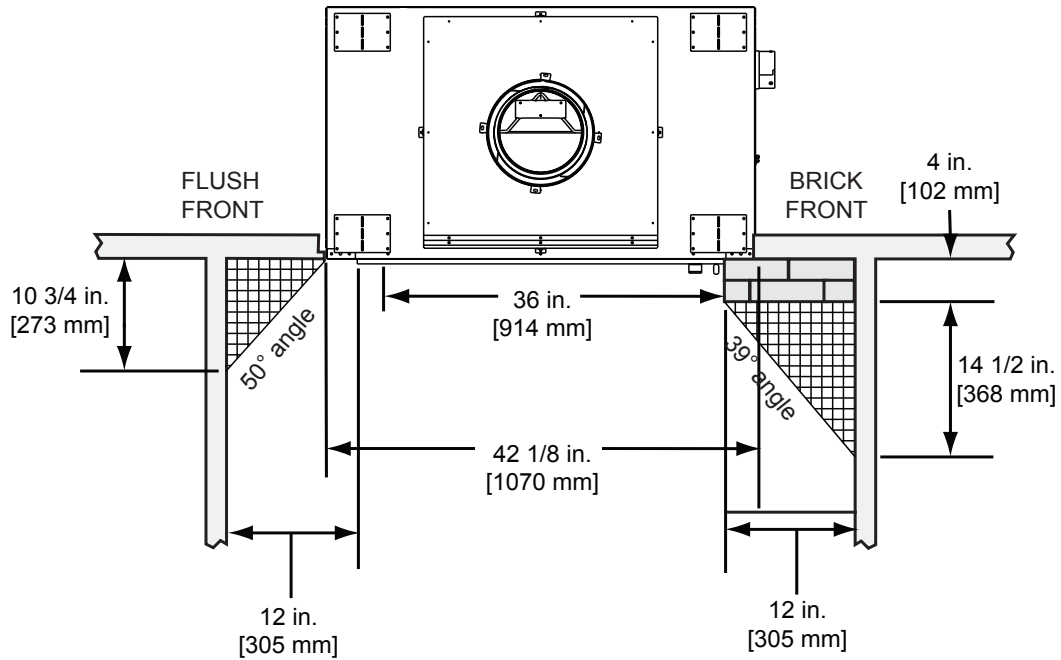

Figure 7.5 Mantel Leg, Surround or Wall Projection (acceptable on both sides of opening)
- Mantle leg, surround, stub wall, whether combustible or non-combustible, may be constructed as shown in Figure 7.5.